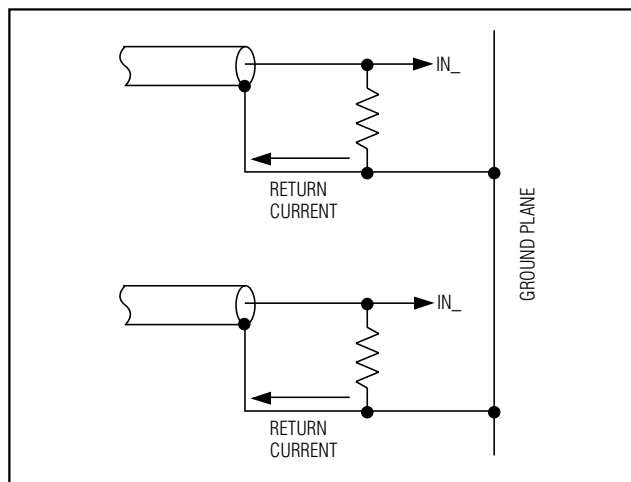

Figure 11. Low-Crosstalk Layout. Return current from termination resistor does not flow through the ground plane.
- 3) Connect the coaxial-cable shield to the ground side of the  $75\Omega$  terminating resistor at the ground plane to further reduce crosstalk (Figure 11).